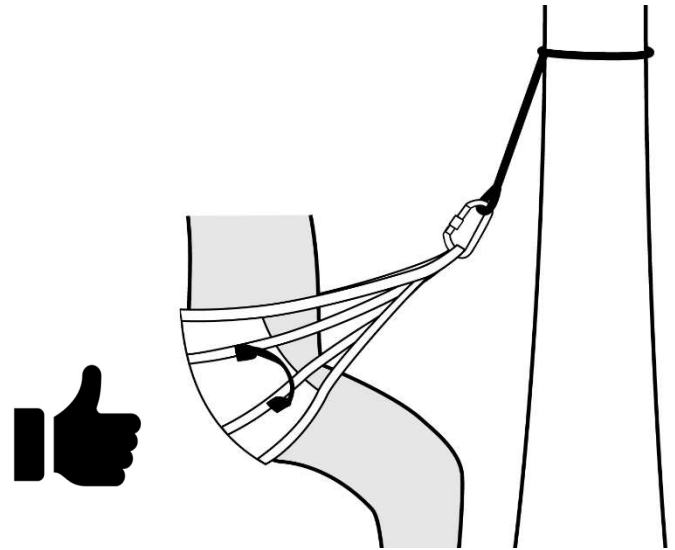

Figure 6
3. At hunting height, while still connected by your lineman belt, wrap your tether around the tree at nose or forehead height. Place the carabiner through the loop end of your tether and attach the carabiner to the bridge loop. (Figure 6)